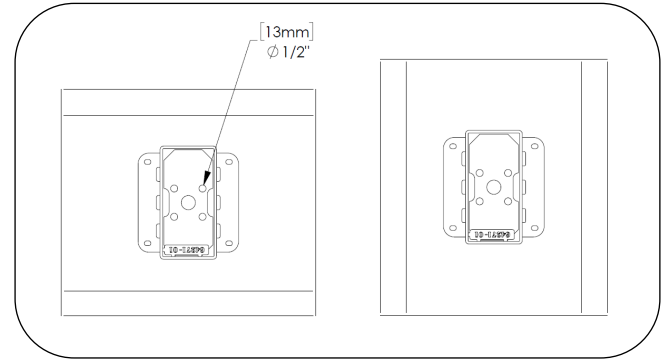

Fig. 1 – support to seat orientations
1. Set support column in position. Refer to site plans for correct orientation of support column in relation to cube seat. Support can be installed in two different orientations. See Fig. 1.